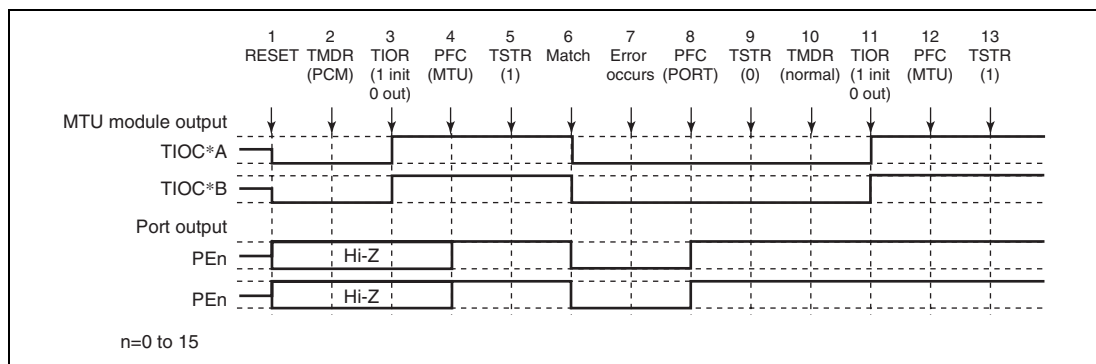

**Figure 11.101 Error Occurrence in Phase Counting Mode, Recovery in Normal Mode**
**Operation when Error Occurs during Phase Counting Mode Operation, and Operation is Restarted in Normal Mode:** Figure 11.101 shows an explanatory diagram of the case where an error occurs in phase counting mode and operation is restarted in normal mode after re-setting.
1 to 9 are the same as in figure 11.101.